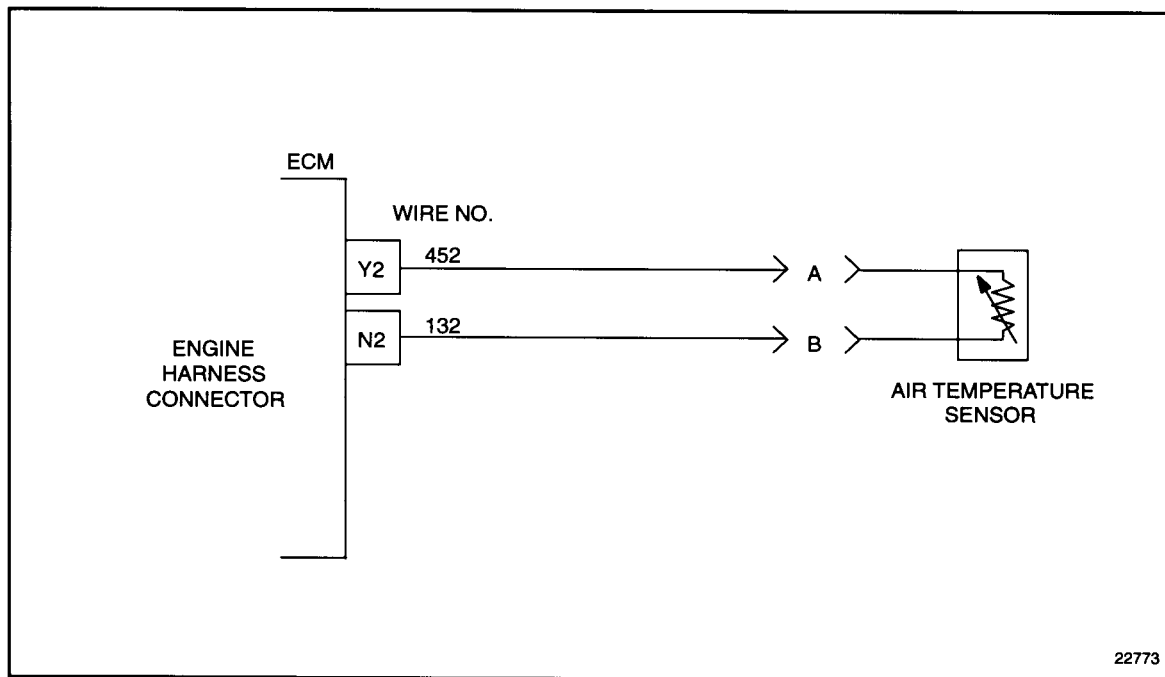

Figure 27-4 Air Temperature Sensor
1. Check terminals at the ATS connector (both sensor and harness side) for damage; bent, corroded and unseated pins or sockets. See Figure 27-4.